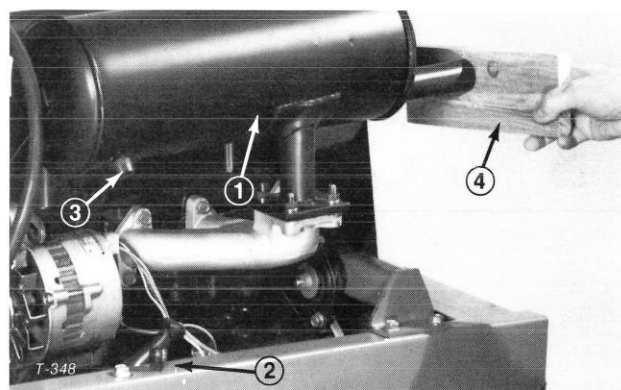

Figure 56
2. Remove pipe plug from cleanout port at lower side of muffler (Fig. 56).
3. Start engine, plug the normal muffler exit with block of wood or metal plate so exhaust flow will be forced out the clean-out port (Fig. 56). Continue to block exit until carbon deposits cease coming out port.